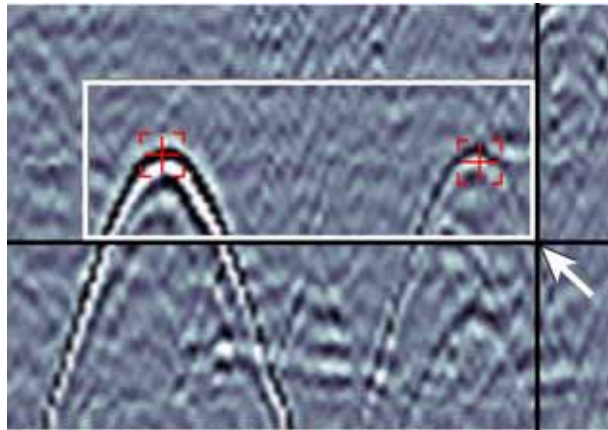

Figure 9-7: Multiple observations are selected by dragging and dropping a box around them. Selected observations can be moved or deleted.
Multiple observations can also be selected by clicking and dragging a box around one or more observations (**Figure 9-7**).
- 1) Click and drag a box to select one or more observations (**Figure 9-7**) and then press the Delete key on the computer keyboard.